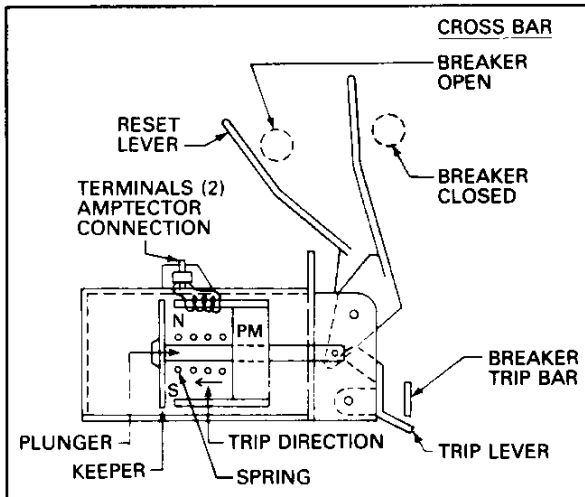

Fig. 3 Actuator Diagram
When the actuator receives a tripping pulse from the Ampptector, it releases a mechanical force to trip the breaker. The actuator is made up of a permanent magnet and a spring (see Fig. 3). When the breaker is open, the cross bar pushes the reset lever. The reset lever moves the plunger out, and the plunger then compresses the spring and pulls the keeper until it contacts the pole pieces of the magnet. Although the magnet cannot pull and reset the keeper against the force of the spring acting on the plunger, it can hold the spring force when the keeper is in contact with the magnet. A current pulse from the Ampptector counteracts the effects of the permanent magnet allowing the spring to separate the keeper from the magnet and move the plunger to actuate the trip lever.
3. Operate the actuator a few times. Alternately pull back on the reset lever (see Fig. 3) and then trip by applying 9 to 12 volts D-C (be sure to use correct polarity) to the terminals.